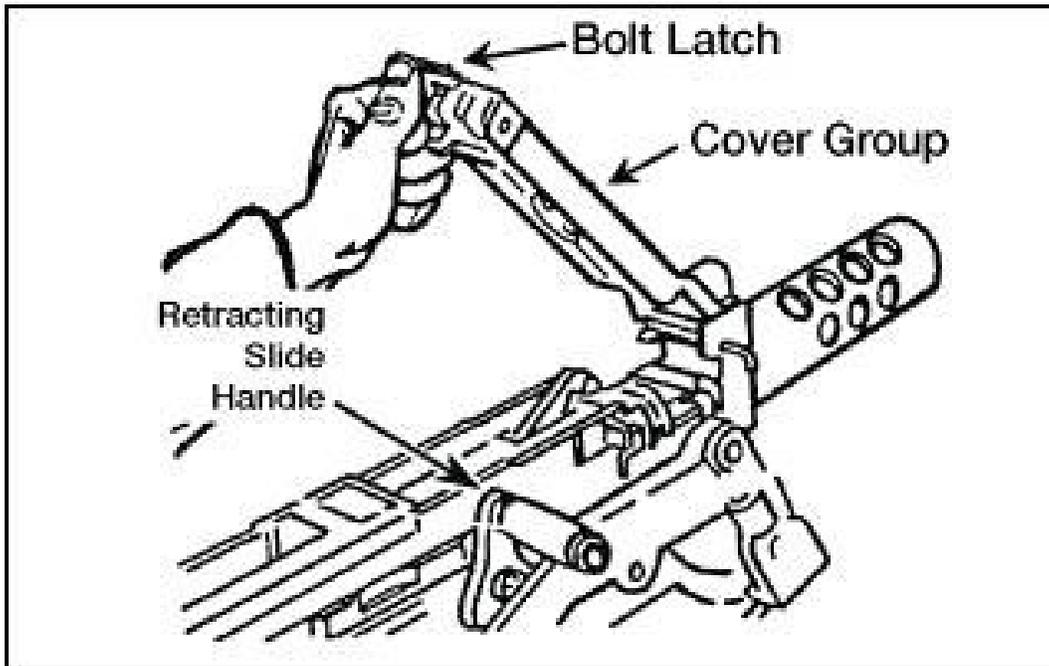

Figure 551-8ST-1025_01 (Raising the cover)
a. Unlock the bolt latch release and raise the cover (Figure 551-8ST-1025_01).